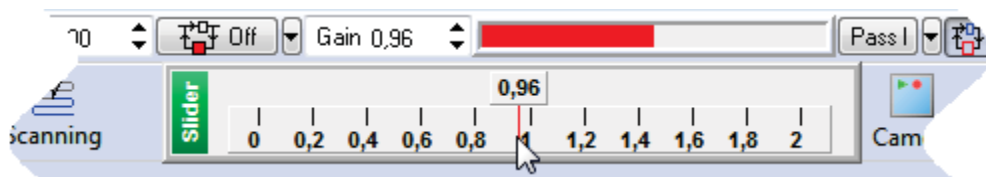

Fig. 8-13. Adjusting slider of the **Gain** parameter
1. Double-click the **Gain** input field in the Main Parameters panel. The adjusting slider of the feedback gain will appear (see Fig. 8-13).